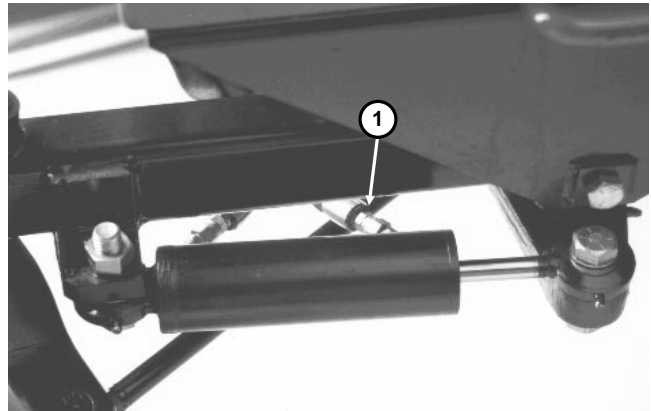

Figure 8
4. Disconnect the hydraulic hose from the fitting on the rod end of the cylinder (Fig. 8). Put a plug in the end of the hose to prevent contamination.